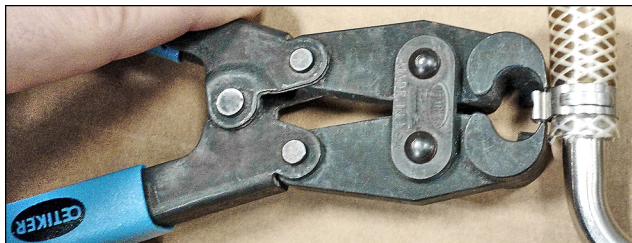

Figure 6-5 - Hose Clamp Removal (Oetiker Tool)
- 5) Carefully remove the threaded, hose-nipple fitting from the infuser manifold by first removing the hose clamp using side cutters or the recommended Oetiker HIP 2800 Es crimping/cutting tool (see Fig. 6-5). Cut the clamp open.